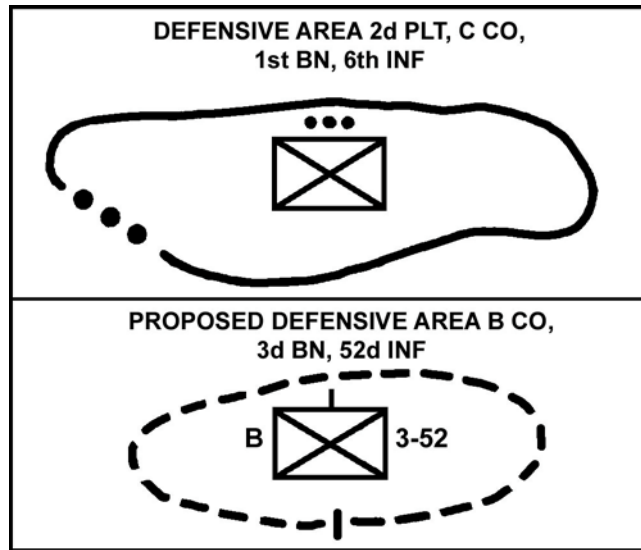

Figure 18. Defensive area.
- k. Depicted defended areas. If an area is occupied and the defense of the area is prepare, a line (including the size symbol of the defending unit) encloses the area, and the closed side of the symbol is oriented toward the most likely enemy threat. If desired, the military symbols of the unit may be entered in the center of the enclosed area. A defensive area for 2d Pit, C Co, 1st Bn, 6th Inf, and a proposed defensive area for B Co, 3d Bn, 52d Inf, are showed in Figure 18.